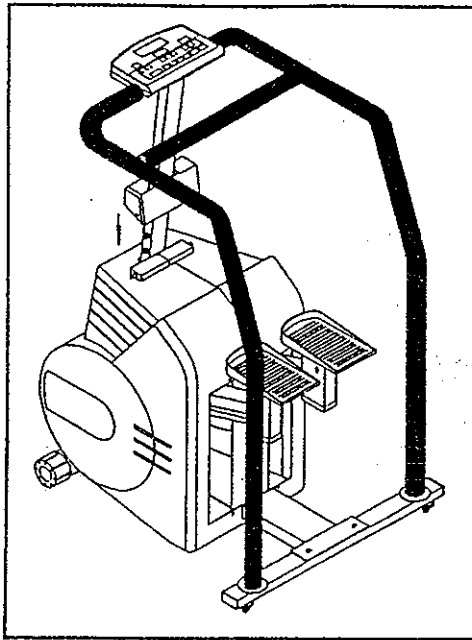

Fig.33
13. Replace the post shroud, secure with two screws (see Fig. 33 & 34).